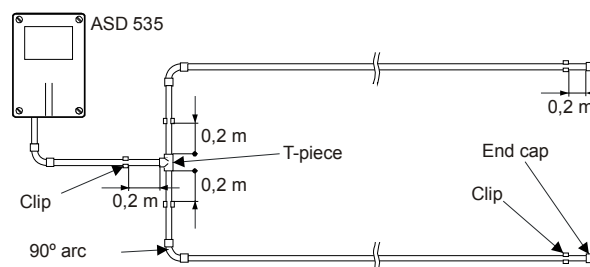

Fig. 9 90° bend, branching point
- Beginning at the branching points of the sampling pipe, a distance of at least 0.2 m must be maintained from the T-piece to the clips, **Fig. 9**.
- For changes of direction in space surveillance installations, it is advisable to use 90° bends rather than 90° angles, **Fig. 9**.